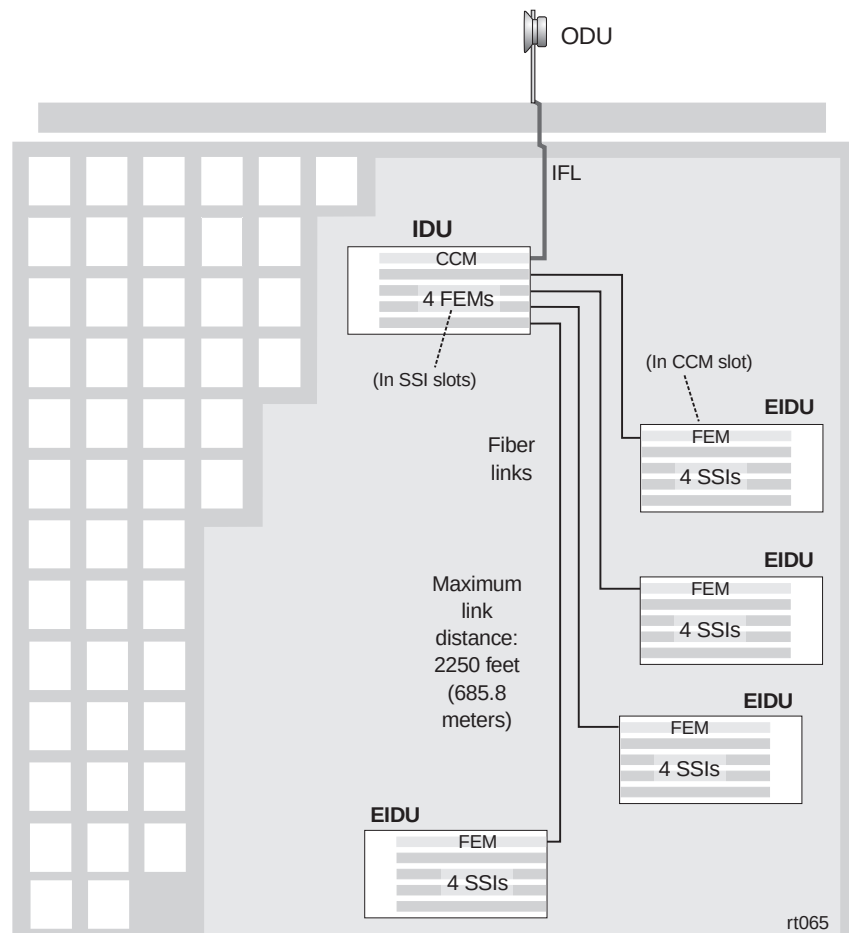
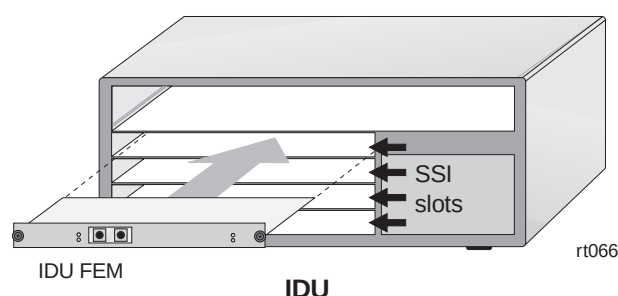
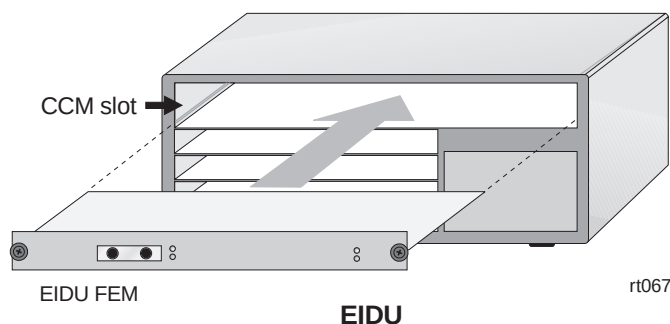

Figure 3-22 EIDUs used to distribute SSIs throughout a remote site building
Figure 3-23 IDU FEM (installed in SSI slot)
Figure 3-24 EIDU FEM (installed in CCM slot)
If more than 4 SSIs are required at a single site, or SSIs need to be physically distributed (on different floors, for example), one or more expansion IDUs (EIDUs) may be installed, at remote sites only. A single IDU can accommodate up to 4 EIDUs (16 SSI slots) as shown in figure 3-22.
- **IDU FEMs** – IDU FEMs provide the interface on the IDU for the link to/from the EIDU (as shown in figure 3-22). IDU FEMs are installed in SSI slots in the IDU chassis, as shown in figure 3-23. *IDU FEMs and SSIs may be installed in the same chassis.*
- **EIDU FEM** – The EIDU FEM provides the interface on the EIDU for the fiber link to/from the IDU (as shown in figure 3-22). The EIDU FEM is installed in the CCM slot of the EIDU chassis, as shown in figure 3-24.